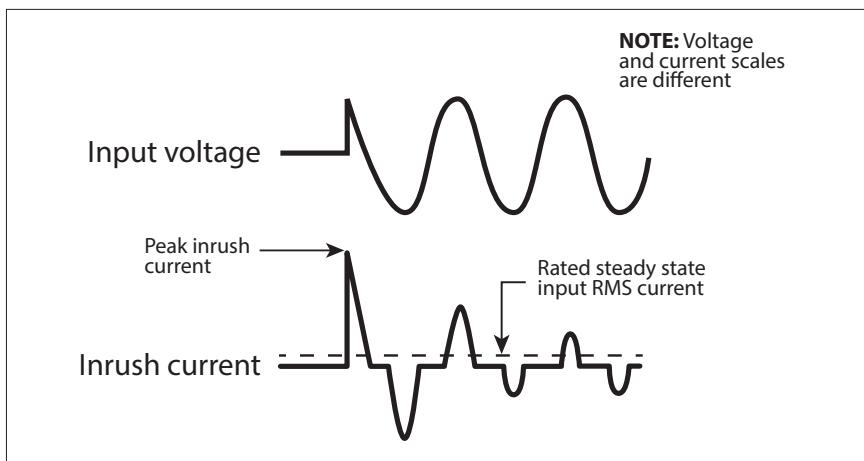

Fig 4.1: Inrush current in an SMPS
- **AC to DC Switched Mode Power Supplies (SMPS):** This type of power supply is used as stand-alone power supply or as front end in all electronic devices powered from Utility / Grid e.g. in audio/video/ computing devices and battery chargers (Please see Section 4 for more details on SMPS). When this power supply is switched ON, its internal input side capacitors start charging resulting in very high surge of Inrush Current for a few millisecs (Please see Fig 4.1). This surge of inrush current / power may reach up to 15 times the Continuous Maximum Running Power Rating. The surge of inrush current / power will, however, be limited by the Surge Power Rating of the AC source.
**Power Factor, (PF):** It is denoted by "PF" and is equal to the ratio of the Active Power (P) in Watts to the Apparent Power (S) in VA. The maximum value is 1 for resistive types of loads where the Active Power (P) in Watts = the Apparent Power (S) in VA. It is 0 for purely inductive or purely capacitive loads. Practically, the loads will be a combination of resistive, inductive and capacitive elements and hence, its value will be  $> 0 < 1$ . Normally it ranges from 0.5 to 0.8 e.g. (i) AC motors (0.4 to 0.8), (ii) Transformers (0.8) (iii) AC to DC Switch Mode Power Supplies (0.5 to 0.6) etc.
Switch Mode Power Supplies (SMPS) are extensively used to convert the incoming AC power into various voltages like 3.3V, 5V, 12V, 24V etc. that are used to power various devices and circuits used in electronic equipment like battery chargers, computers, audio and video devices, radios etc. SMPS use large capacitors in their input section for filtration. When the power supply is first turned on, there is a very large inrush current drawn by the power supply as the input capacitors are charged (The capacitors act almost like a short circuit at the instant the power is turned on). The inrush current at turn-on is several to tens of times larger than the rated RMS input current and lasts for a few milliseconds. An example of the input voltage versus input current waveforms is given in Fig. 4.1. It will be seen that the initial input current pulse just after turn-on is > 15 times larger than the steady state RMS current. The inrush dissipates in around 2 or 3 cycles i.e. in around 33 to 50 milliseconds for 60 Hz sine wave.